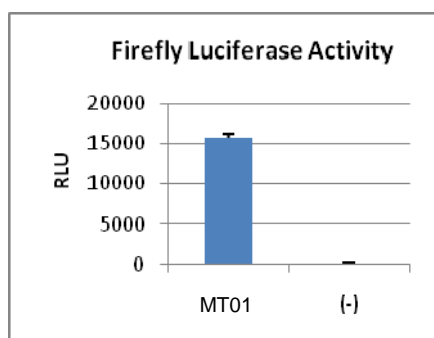

Figure 1a
**Figure 1. The background of firefly luciferase is low with GeneCopoeia Luc-Pair miR Luciferase Assay.** HEK293 cells were plated on a 6-well plate. On the second day, the cells were transfected with either GeneCopoeia pEZX-MT01 target reporter vector or a control plasmid. The cells were transferred to a 96-well plate 18 hours after transfection and cultured for another 24 hours. Then both luciferase assays were performed as described in the procedure. Firefly luciferase activity was measured first (Fig. 1a), followed by *Renilla* luciferase activity (Fig. 1b). Similar results have been obtained on CHO-K1 cells and HeLa cells (Data not shown).